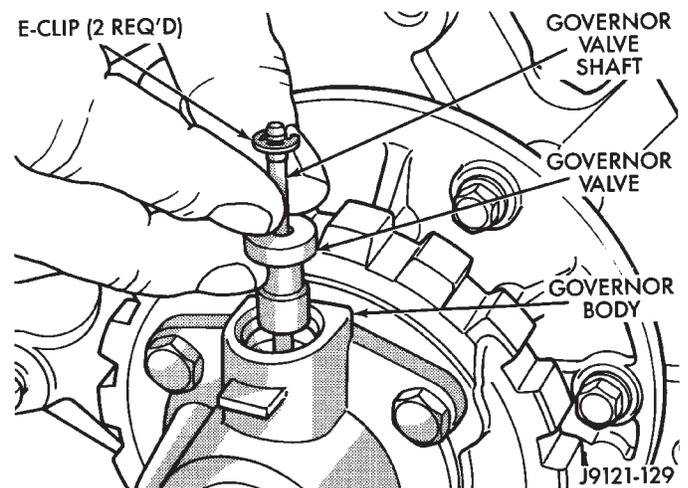

Fig. 138 Installing Governor Valve And Shaft
(6) Install first E-clip on governor valve shaft. Then install governor valve and shaft in governor body (Fig. 138). **Be sure valve shaft moves freely**
(7) Install second E-clip on governor valve shaft. Tighten bolts attaching governor body to park gear to 11 N·m (95 in. lbs.) torque.
(8) Install governor filter in park gear. Tighten bolts attaching governor body to park gear to 11 N·m (95 in. lbs.) torque.
(9) Install governor weight assembly in governor body. Tighten bolts attaching governor body to park gear to 11 N·m (95 in. lbs.) torque.
(10) Install governor filter in park gear. Tighten bolts attaching governor body to park gear to 11 N·m (95 in. lbs.) torque.